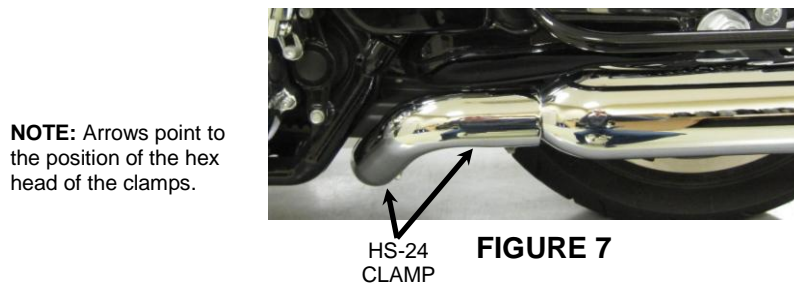

FIGURE 7
24. Place left rear heatshield in position on the crossover assembly on the left side of the motorcycle. (Hint: Spread the hose clamps apart slightly to make it easier to slide them over the headpipes.) Align the heatshield with the crossover assembly and snug the clamps but **DO NOT TIGHTEN** at this time. See **FIGURE 7**.